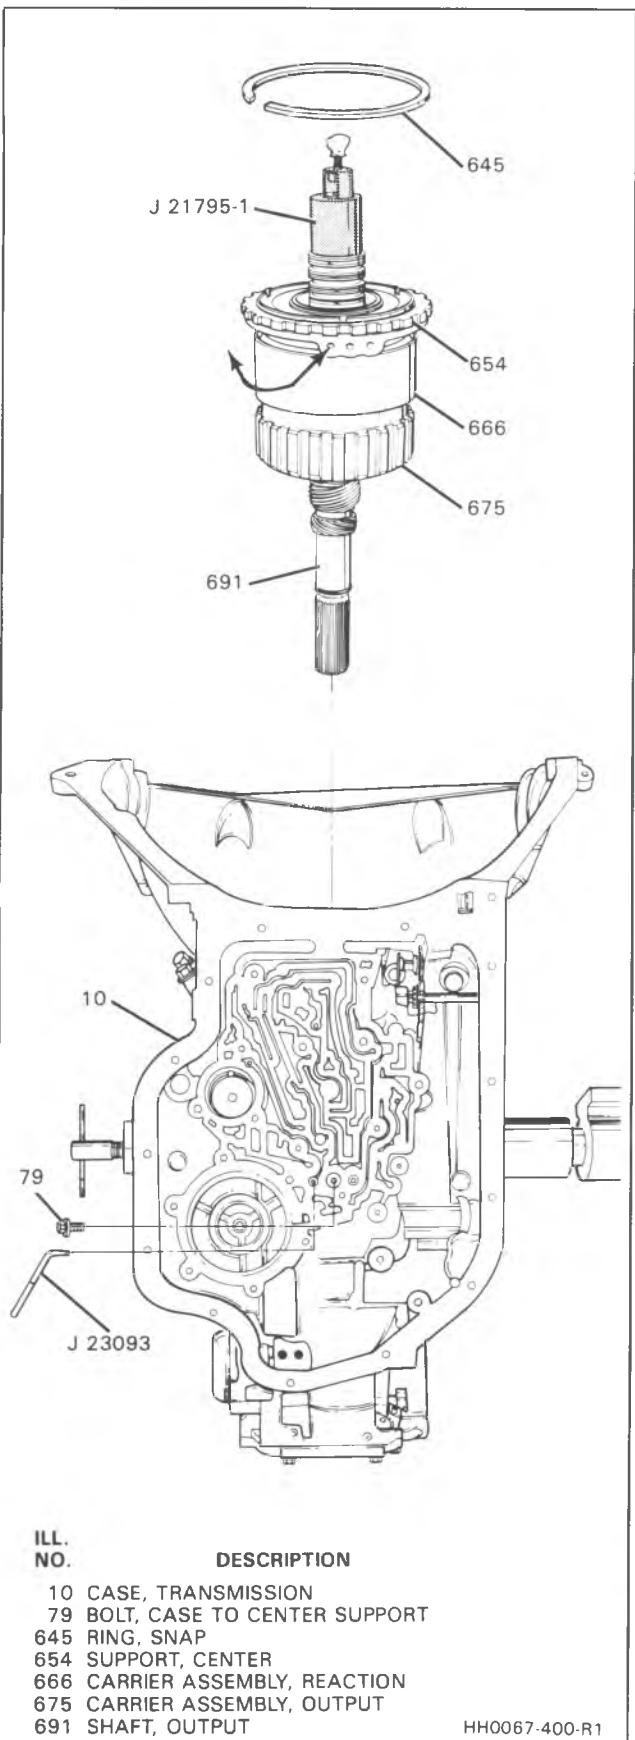

Figure 60 - Installing Center Support and Gear Unit Assembly
→ Install or Connect (Figure 60)
1. J 21795-1 to main shaft (681).
2. With transmission in a vertical position, align bolt hole in center support (654) with hole in case (10) and carefully lower into case.
3. Locate J 23093 into the center support (654) direct clutch passage through case (10). Apply pressure on J 23093, in direction of arrow (Figure 60), seating the center support splines against the case splines.
4. Case to center support bolt (79).
5. Snap ring (645).